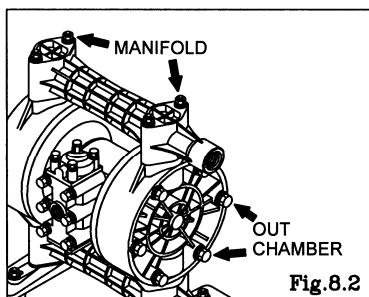

Fig.8.2
- Retighten the Out chamber and then the manifold in this order. [Fig.8.2]